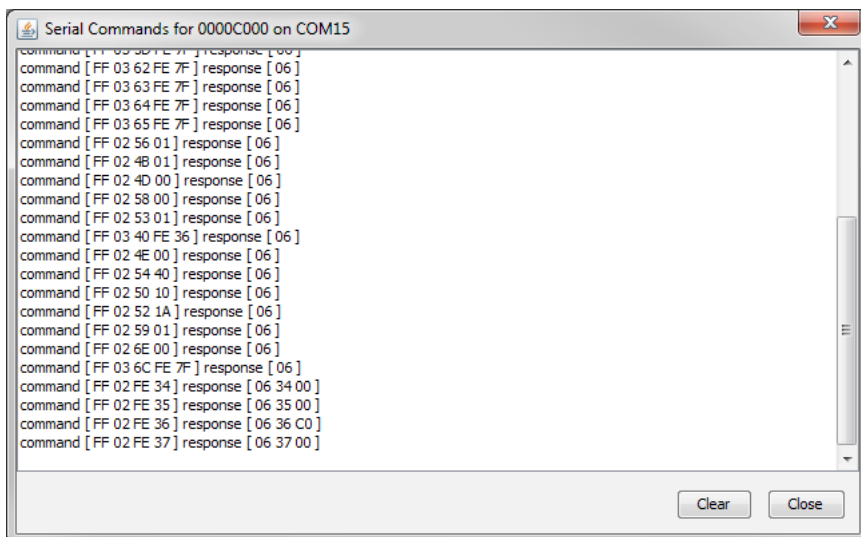

Figure 18: The Master Development System Software Show Commands Window
7. The Show Commands button opens a window that shows the bytes sent to the module and the responses from the module (Figure 18).